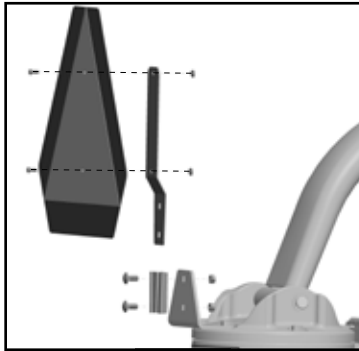

FIG. 5
**STEP 9:** Install the SMV kit (PN 20069) (see FIG. 5).